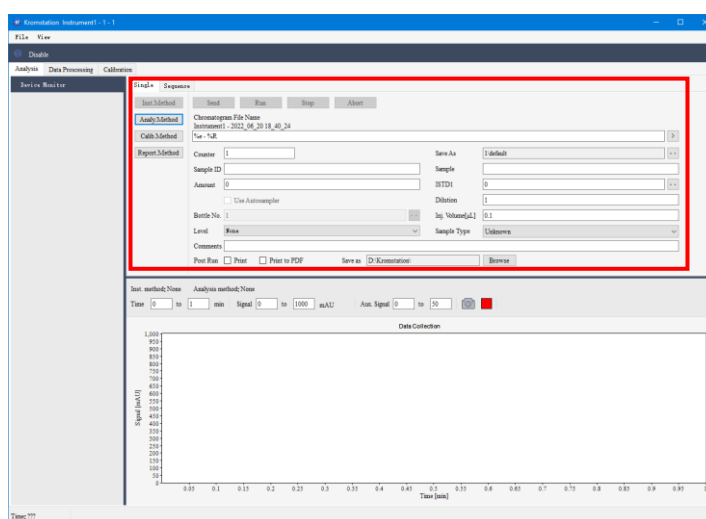

Figure 4-1 Single Analysis dialog box
- 1) Click "Single" to display the single analysis dialog box, as shown in Figure 4-1. Fill in relevant information such as sample ID, sample name, total amount, dilution, internal standard amount, injection volume, etc. in the single analysis dialog box.